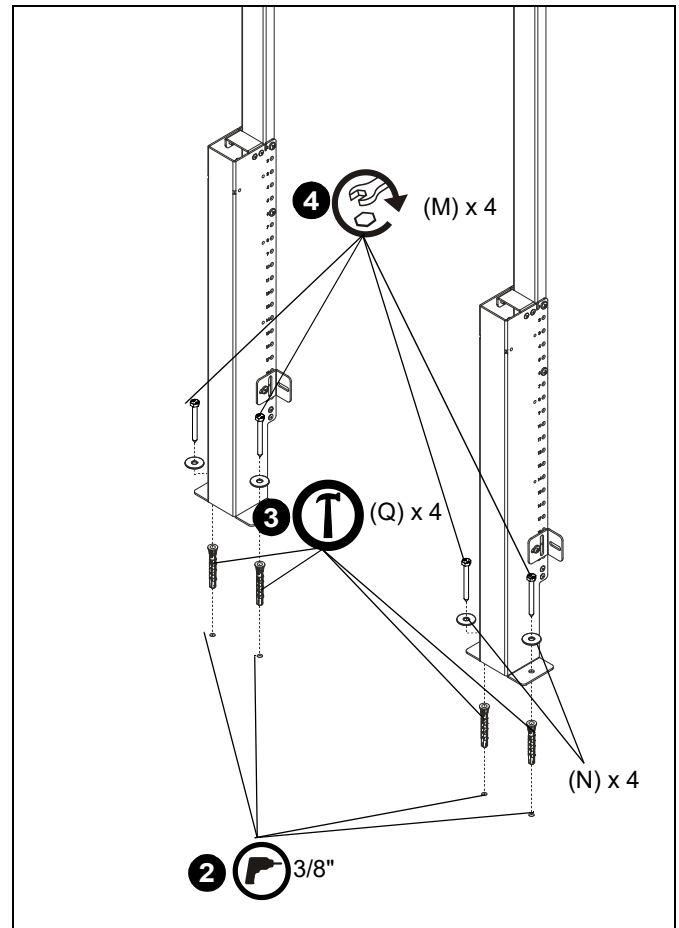

Figure 5
- Position assembled stand against wall at desired mounting location and mark hole locations at each mounting location. (See Figure 5)
- Remove stand from location and drill 5/16" holes with a depth of 2 3/8" (60mm) on marked hole locations. (See Figure 5)
- Use hammer to install four concrete anchors (Q) into drilled holes. (See Figure 5)
- Use four 1/4-20 x 2 1/2" hex head lag screws (M) and four 1/4" washers to secure wall brackets (F) to floor. (See Figure 5)